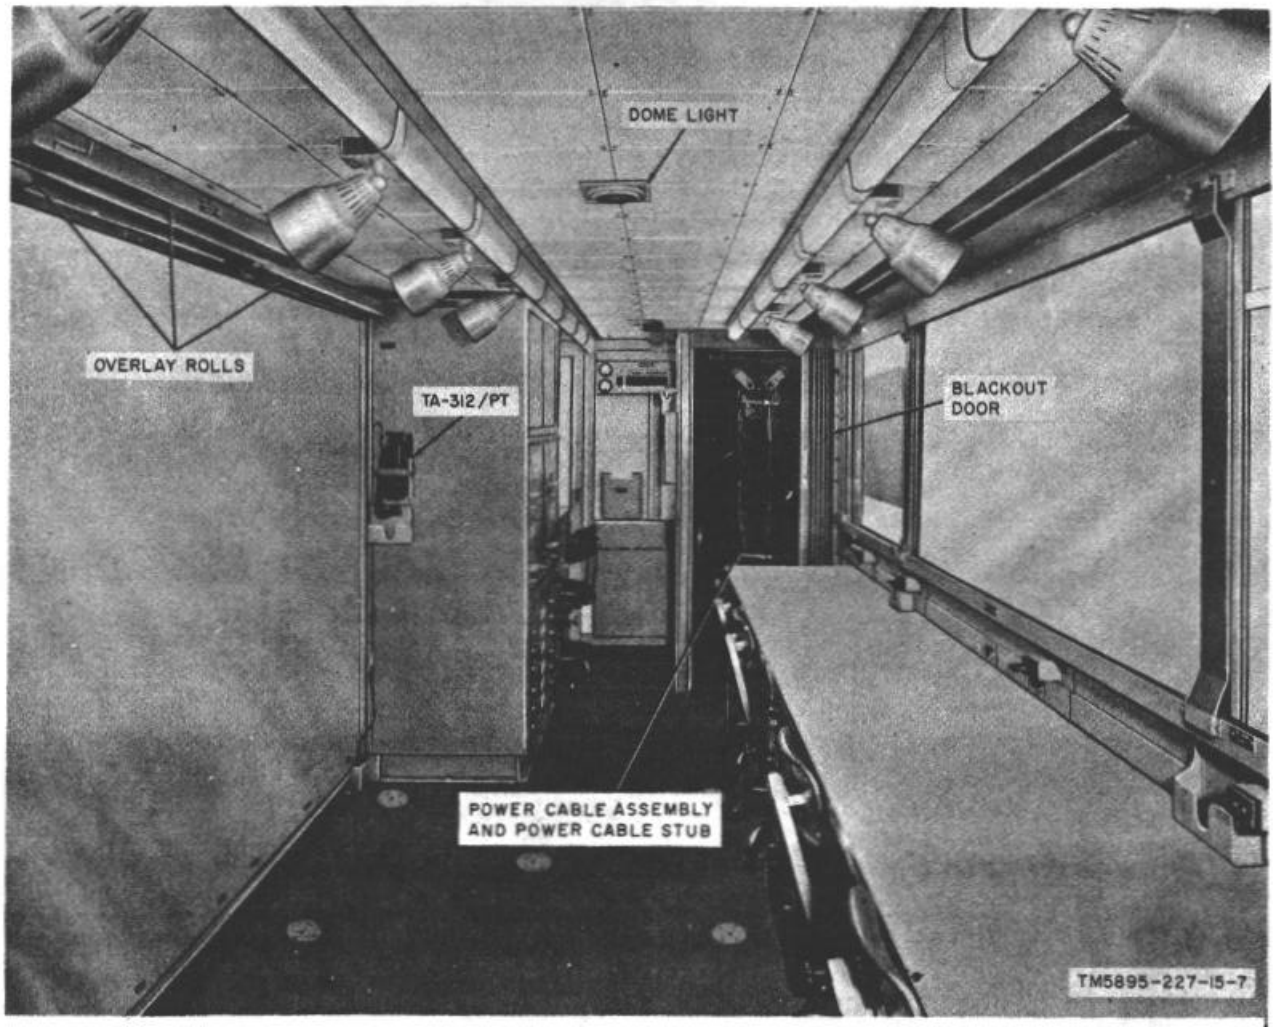

Figure 9. Operations Center, Communications AN/MSC-25, interior rear view.
PANEL (power entrance box). Alternating current (ac) power for the AN/MSC-25 must be obtained from a local source (para. 22). Figures 9 and 10 are interior views of the AN/MSC-25; the locations of interior components are shown- in figures 14 through 19. The major components of the AN/MSC-25 are described in paragraph 8, and the van components in paragraph 9.
c. *Telephone Set TA.-312/PT.* Three TA-312 /PT's (TM 11-2155) are mounted (less carrying cases) : one above the tabletop (fig. 14), one on the side of storage cabinet No. 1 (figs. 9 and 14), and one on the front, partition wall (fig. 16). Four TA-312/PT's are located in storage cabinet No. 1; when required for use, they should be placed on the roadside tabletop (fig. 15) adjacent to the PHONE jacks at positions 1 through 4. The TA-312/PT's are used for local telephone communication.